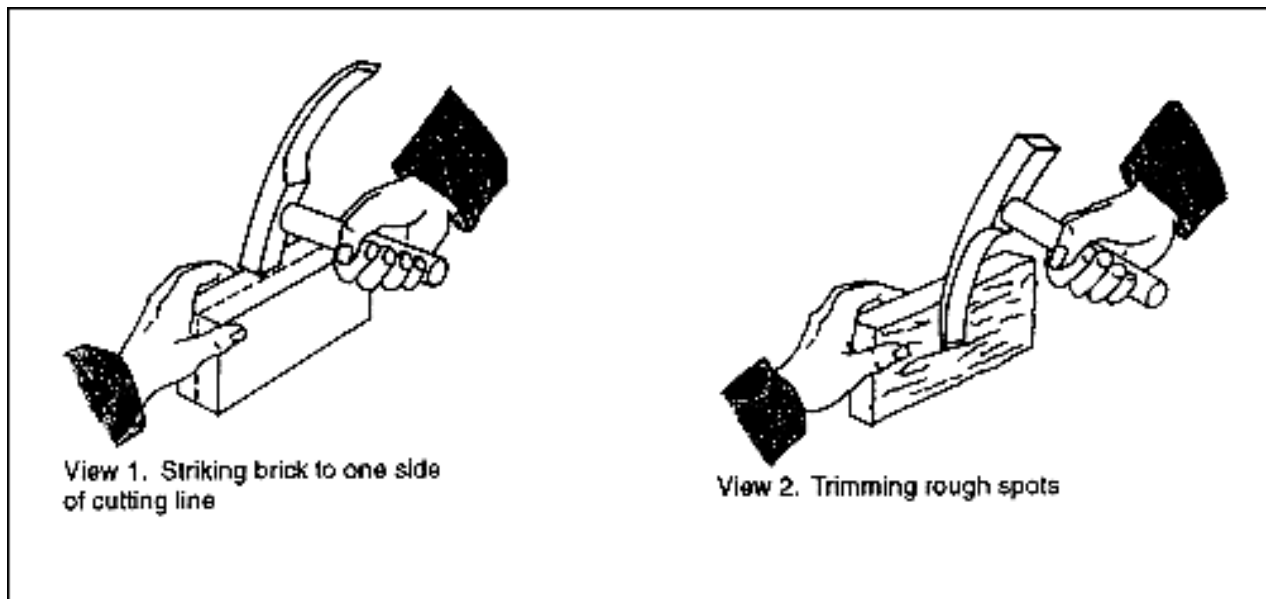

Figure 9-17. Cutting a brick with a hammer
- Using a brick hammer. Use a brick hammer for normal cutting work, such as making the closure bricks and bats around wall openings or completing corners. Hold the brick firmly while cutting it. First cut a line around the brick using light blows. Hitting a sharp blow to one side of the cutting line should split the brick at the cutting line (see view 1 of Figure 9-17). Trim rough spots using the hammer blade as shown in view 2 of Figure 9-17.